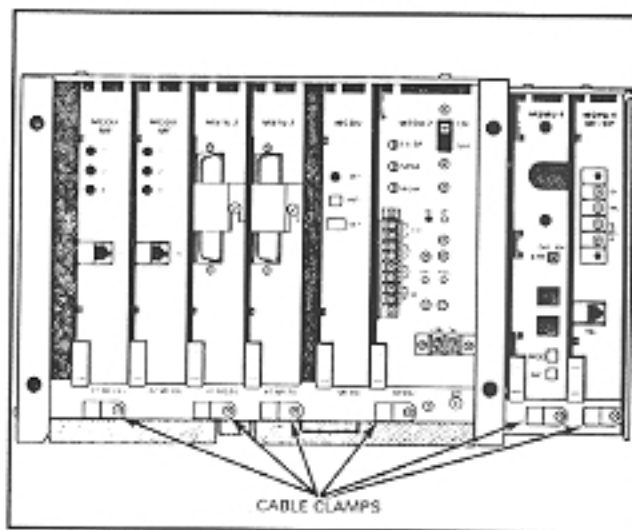

FIGURE 24—CABLE CLAMPS
07.32 Secure the modular cords to the MKSU shelf (Figure 24) using the provided cable clamps.
07.52 Secure the modular cords to the MKSU shelf (Figure 24) using the plastic cable clamps that are provided.